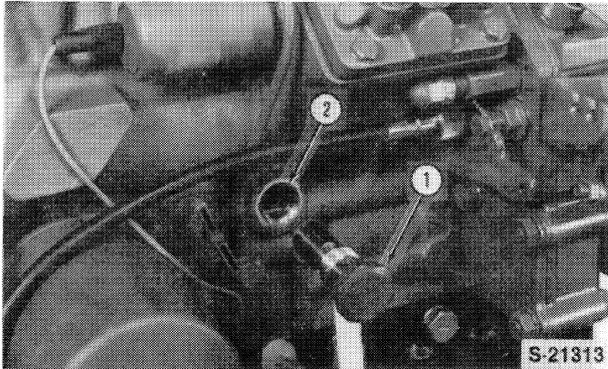

Figure 3
The relief valve (1), Figure 3, is mounted in the side of the engine block and intersects the main oil gallery. When the oil pressure exceeds the rated pressure, oil is bypassed through the relief valve directly to sump through a passage in the engine block.